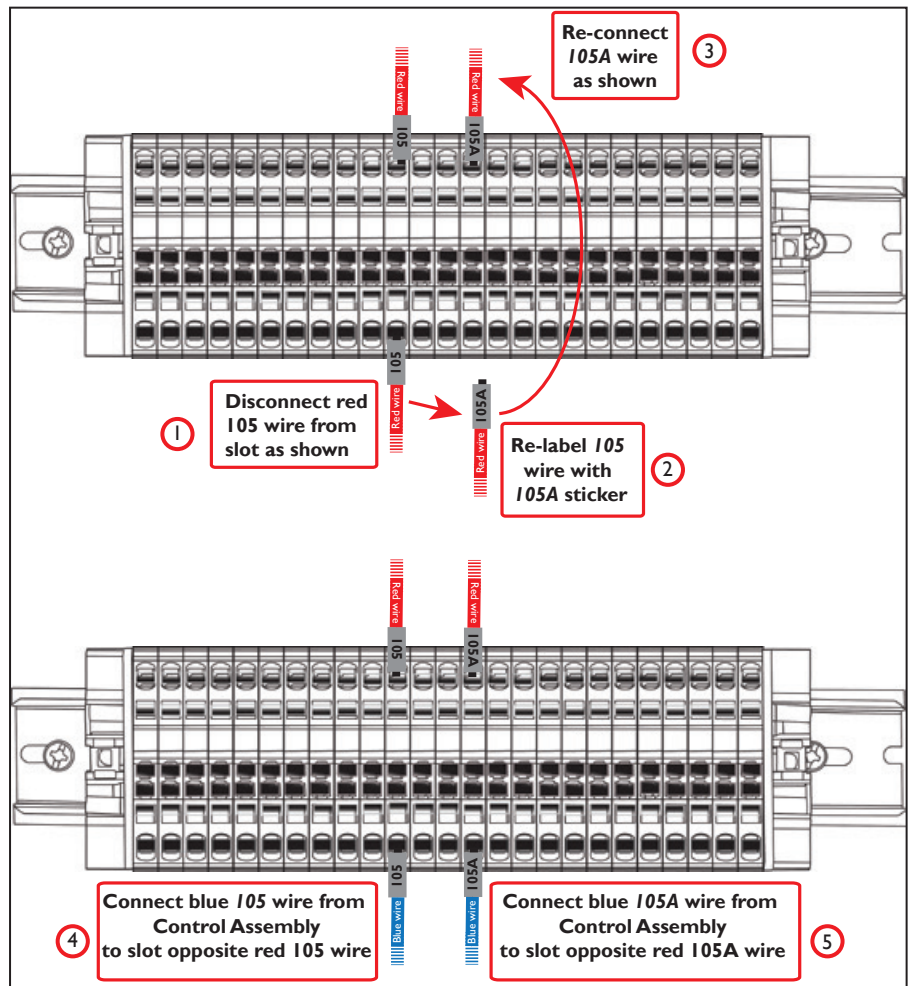

Figure 14
NOTE: For both the terminal block and strip, the wiring numbers and layout shown in **Figure 14** are the same.
2. Follow the step-by-step instructions in **Figure 14** to put the new spindle door wires in series with the spindle door switch circuit. Some wiring configurations may appear different than shown, but wire numbers and layout are all the same.